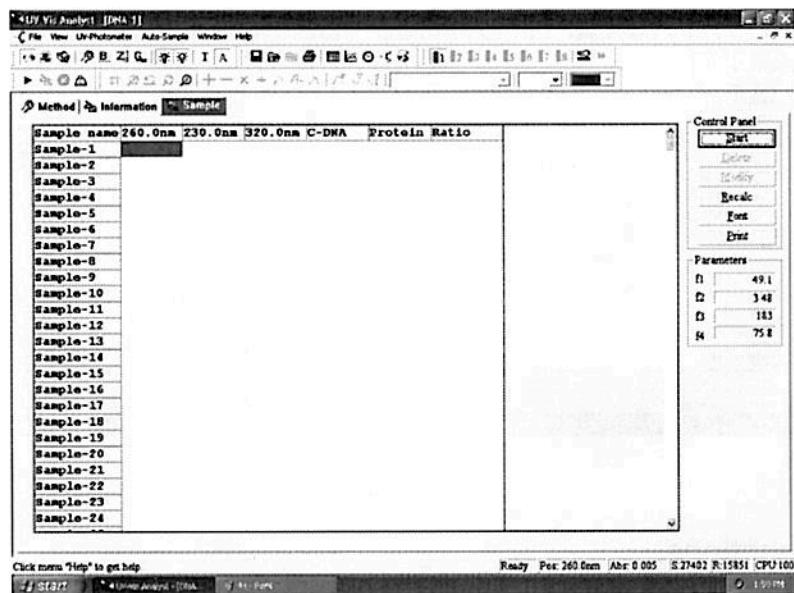

Fig. 4-45
4. Click the **Sample** tab. It will display the following (Fig. 4-45). The control menu contains six buttons: **Start**, **Delete**, **Modify**, **Recalculate**, **Font** and **Print**.